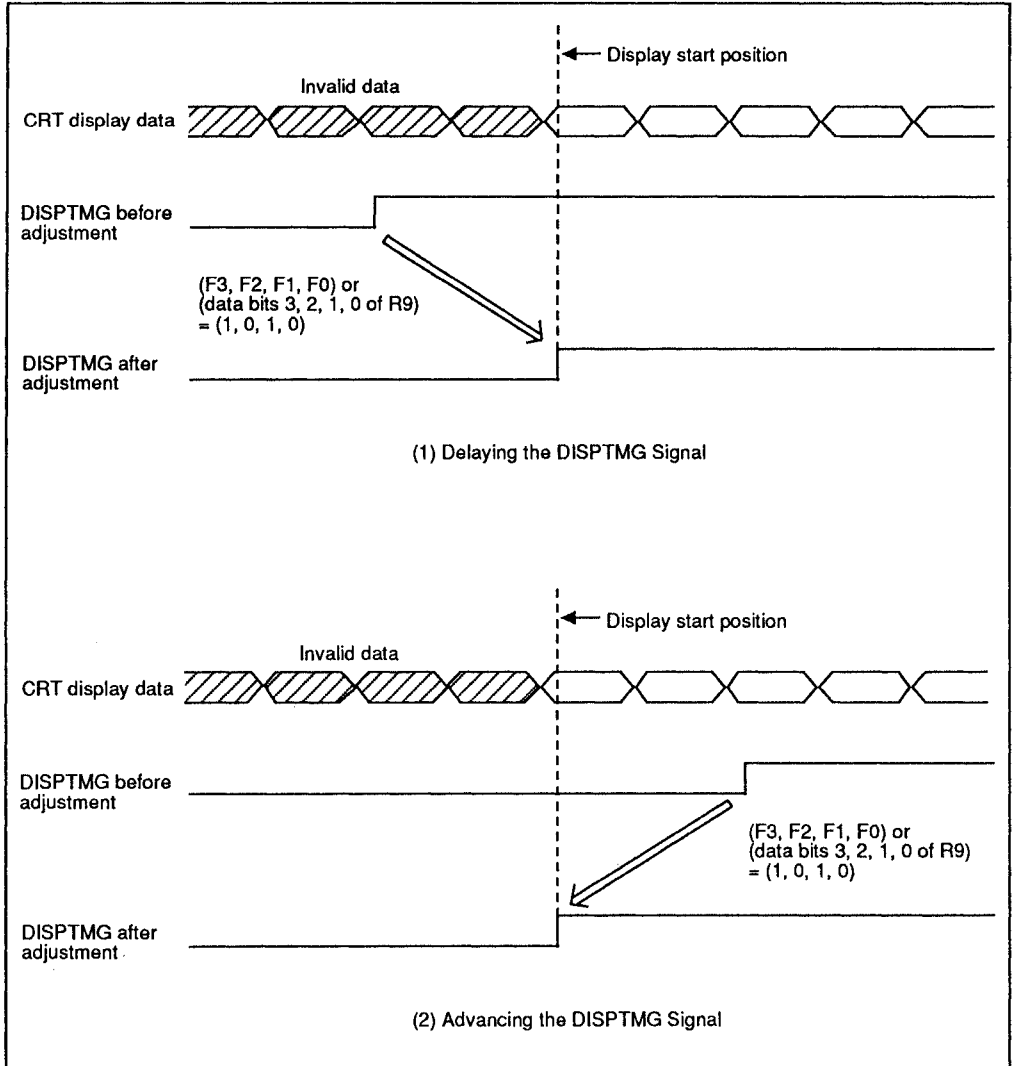

Figure 3-17 DISPTMG Signal Adjustment
Figure 3-17 shows examples of adjusting the DISPTMG signal. In example (1), since the signal is two dots ahead of the display start position, either (F3, F2, F1, F0) or (R9 bits 3, 2, 1, 0) should be set to (1, 0, 1, 0) to delay the signal two dots. In example (2), since the signal is two dots behind the display start position, the pins or bits should be set to (0, 0, 1, 0) to advance the signal two dots. If there is no need to adjust the signal, a setting of either (0, 0, 0, 0) or (1, 0, 1, 0) will do.